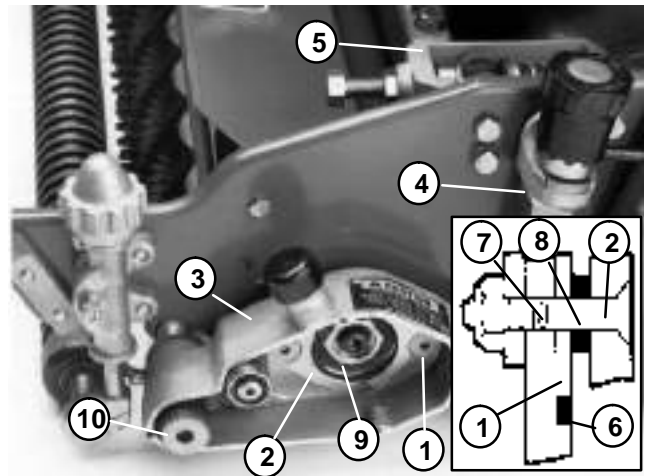

Figure 25
15. Use allen wrench to remove flat head socket screws from the adapter (Fig. 25).
17. Pull belt drive housing with the groomer adjuster from the reel bearing housing (Fig. 25).
2. If bedbar adjuster frames have not been removed, remove the following on both sides of the mower frame (Fig. 25):
3. Install frame assembly (LH) to the left side of the mower frame (Fig. 25 and 26).
**Note:** The driven pulley (42) has **left handed** threads.
6. Reinstall bedbar adjuster frame to mower frame with cap screws and washers previously removed (Fig. 25).